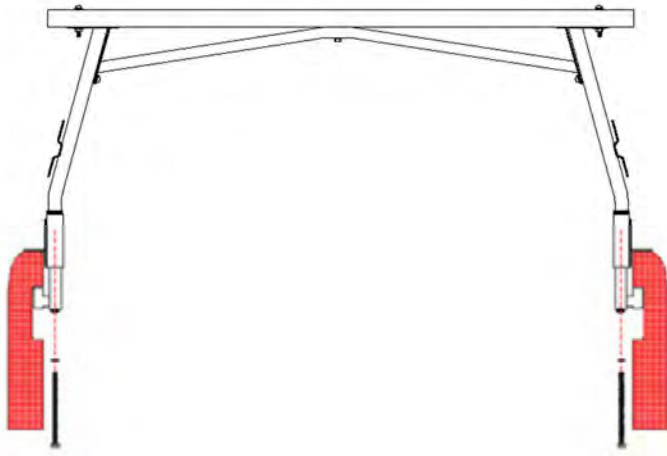

Fig. 7
4. **Attach the Crossbar/Leg Assembly to the Base Rail Assemblies.** As shown in Fig. 6, hold the Crossbar/Leg assembly above the Base Rail Assemblies. Insert the bottoms of the Legs down into the open tubes until they are fully seated and rest on the rings on the Legs. This may require some manipulation because as each Leg slides into the tube, the rear projection of the Clamp Rail must simultaneously **insert** into the bottom of the Leg. If you are unable to get this to properly seat, it may be necessary to loosen or remove the front screw until the Leg can be properly seated. After you have the parts fully assembled, place a nylon washer on the long hex screw and insert into the hole in the bottom of the back projection of the Clamp Rail as shown in Figs. 7 and 8 until it intercepts the threads inside the Legs. Tighten fully as shown in Figs. 9 and 10.